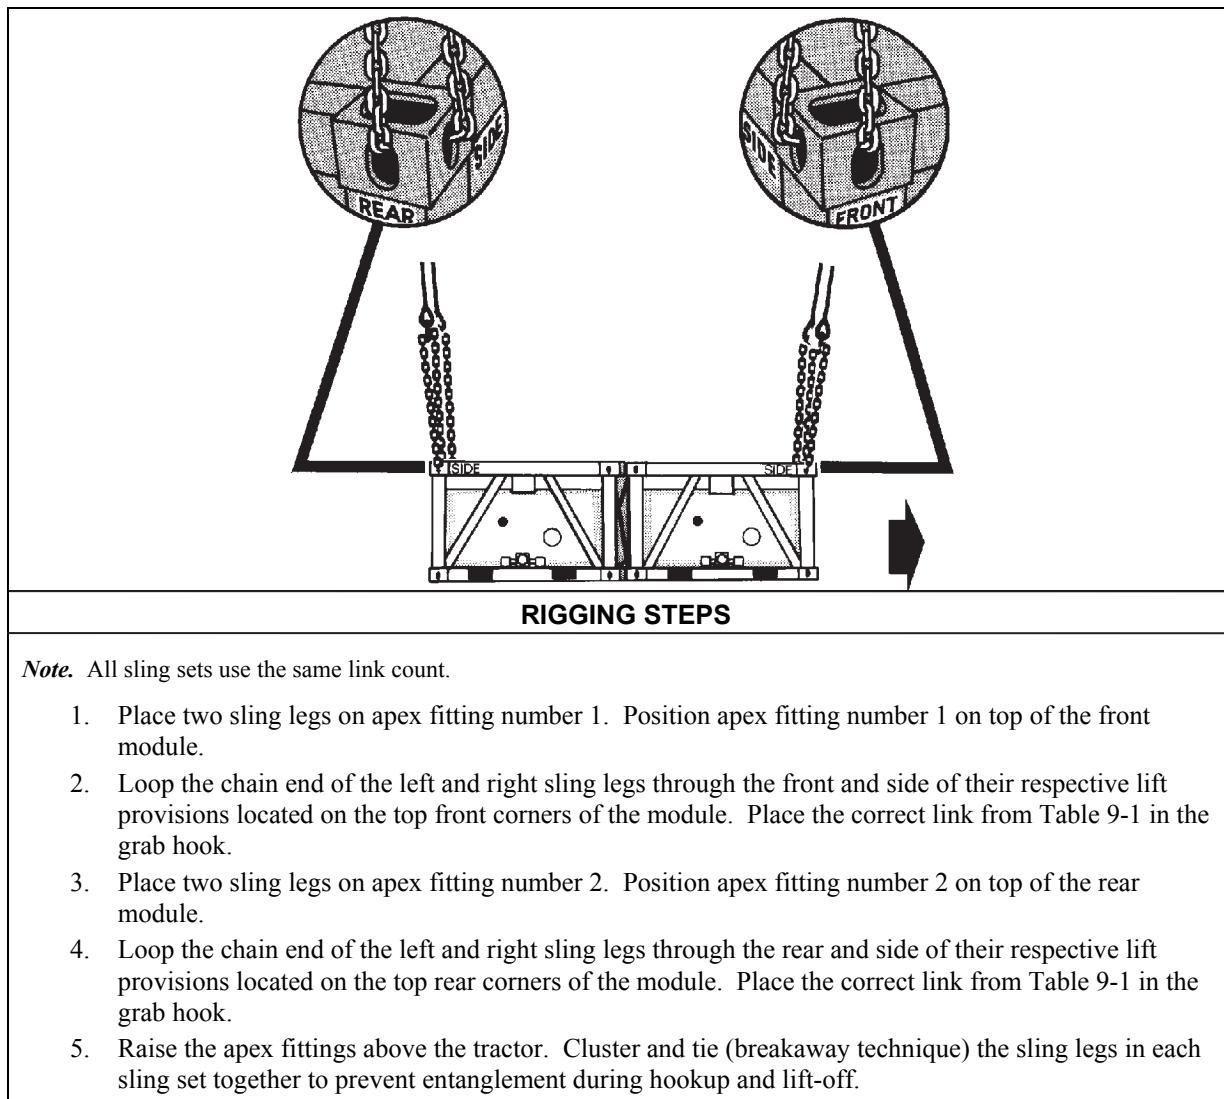

Figure 9-1. Two Storage Modules, Fuel/Water
- **Rigging.** Rig the load according to the steps in Figure 9-1.